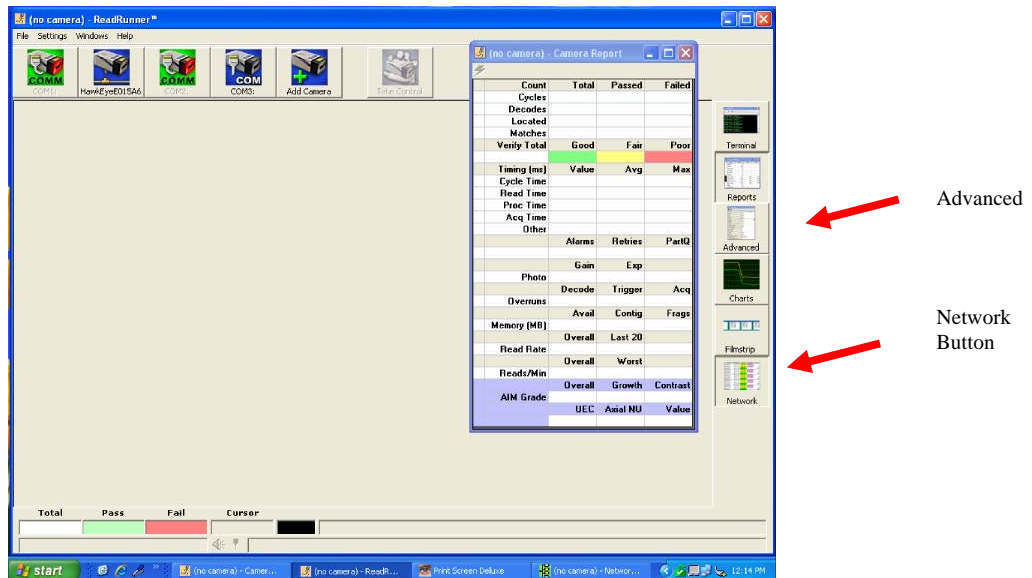
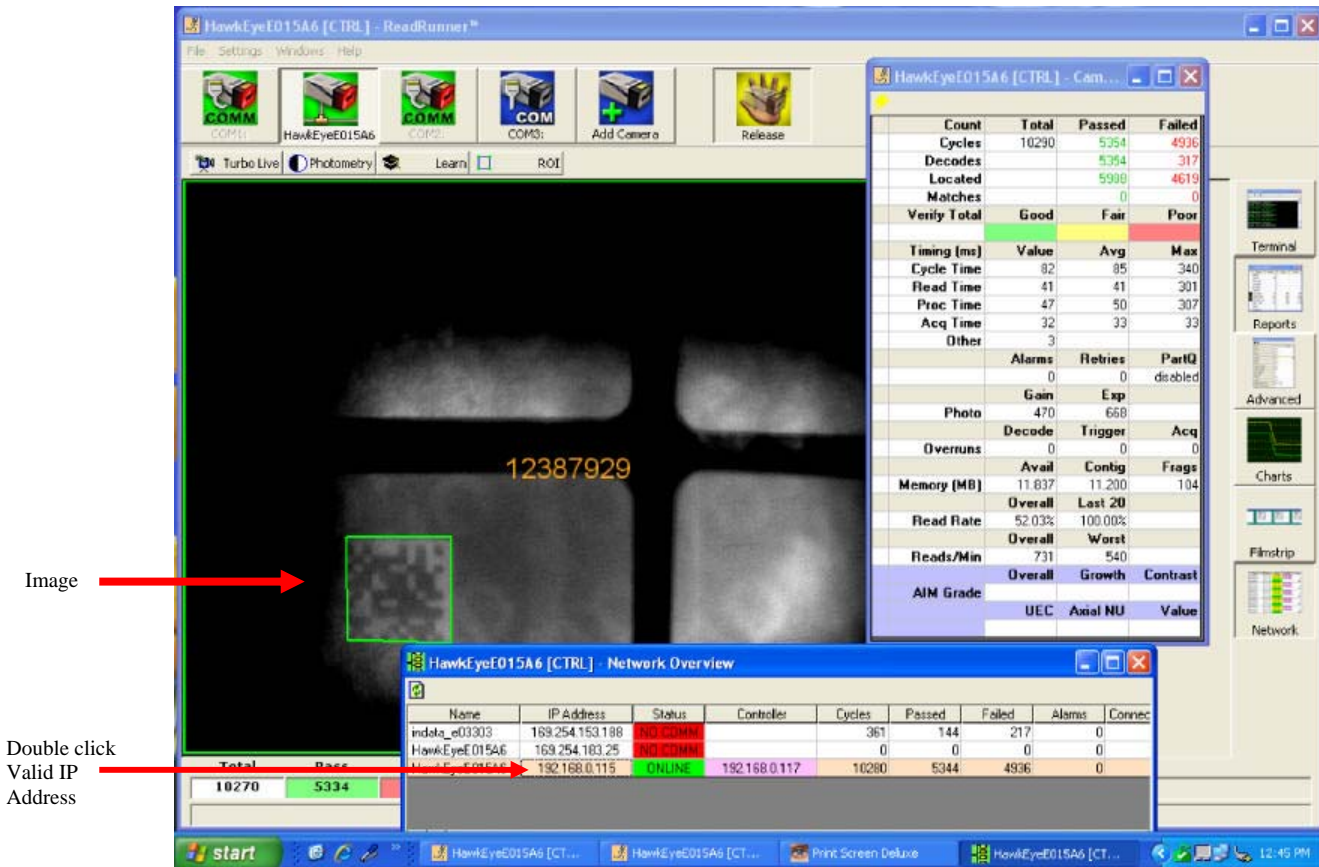

Figure 1
Figure 2
3. Install the ReadRunner software on a PC that will be used in the test setup of the Hawkeye 2020 scanner. After installing the software, run the program. If both the PC and the Hawkeye 2020 are on the same network then you should be able to click on the Network Button (**Figure 1**) on the lower right of the ReadRunner application. The Hawkeye unit should show as an available device. (**Figure 2**)
On some networks the unit will initially display with a local IP address such as 169.254.x.x. This means that the Hawkeye has not yet been assigned a valid IP address from the DHCP server. In some environments, obtaining a valid IP address can take up to 5 minutes. Once the Hawkeye has a valid IP address (the original IP address will turn red) it will display green (**Figure 2**). From that point on, whenever the ReadRunner software is used, the valid IP address should immediately show. Powering off the Hawkeye unit may cause delays in re-obtaining the valid IP address.
4. Double click the valid IP address to add the camera to the selection in the ReadRunner Software (**Figure 2**).
When a fluorescing bar code is placed in front of the Hawkeye 2020 unit at 2” or 5 cm from the front, you should see an image (**Figure 2**) of the fluoresced bar code on the screen, and the camera will beep each time it decodes the bar code.
Further fine tuning of the optimized decoding can be identified in the main manual. For a report of the current data matrix optimization, click on the button on the right of the screen labeled Advanced (**Figure 1**).